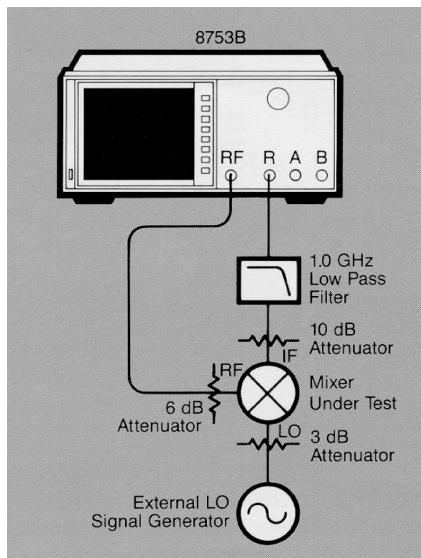

Figure 3. Block diagram for a fixed IF/fixed LO/fixed RF conversion loss measurement
The simplest of all conversion loss measurements is the fixed IF/fixed LO measurement where all three frequencies are held constant. Figure 3 shows the block diagram for a fixed IF/fixed LO conversion loss measurement.
1. Connect the instruments as shown in Figure 3.
2. Press [PRESET] on the front panels of the 8753B and the local oscillator (LO) source.